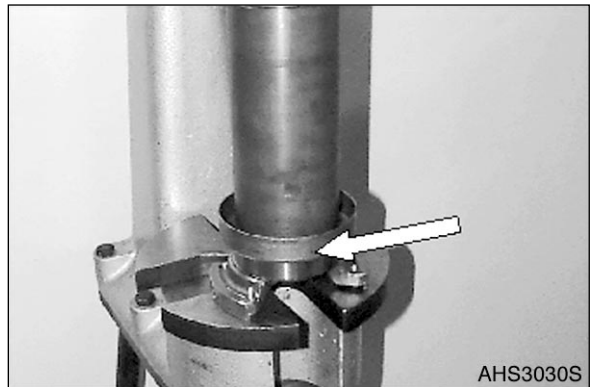

Figure 355
2. Press screening plate (Figure 355) against shoulder.